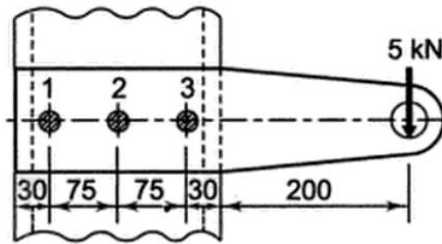

Figure-3
5. A steel plate subjected to a force of 5 kN and fixed to a channel by means of three identical bolts is shown in the Figure-3. The bolts are made from plain carbon steel 45C8 (yield strength $S_{yt}=380 \text{ N/mm}^2$) and the factor of safety is 3. Specify the size of the bolts. (All dimensions are in mm) [12M]